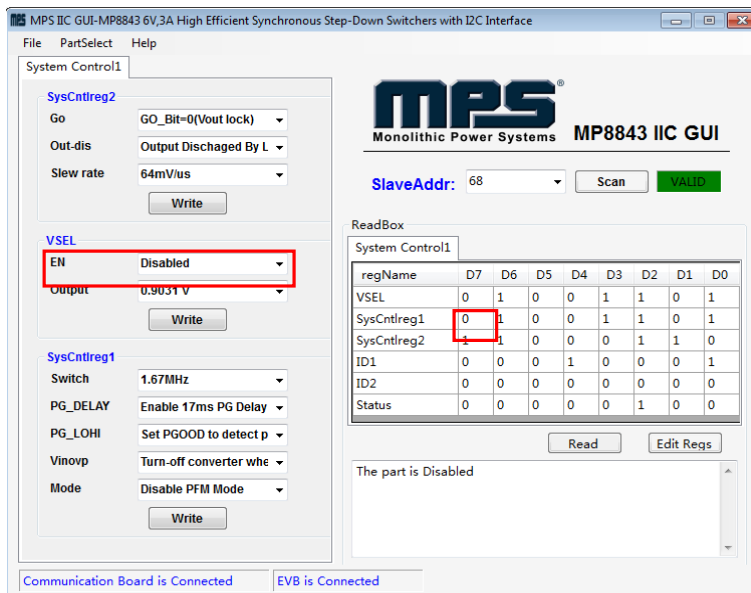

Figure 10: Refer to Datasheet to Translate 0's and 1's
5. Click the Read button to update the values. The changed information of the item will appear on the right side (see Figure 10).